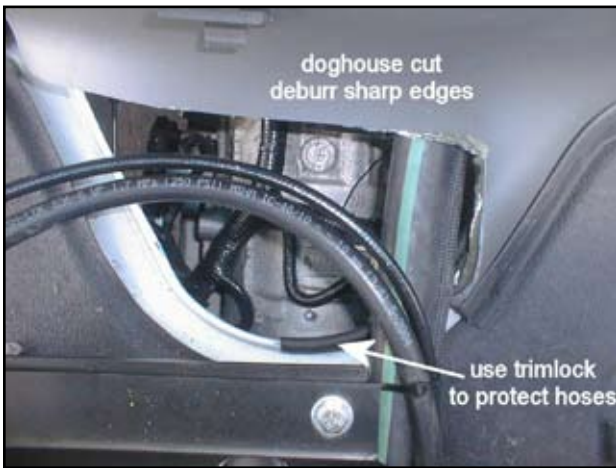

Figure 25. Engine Cover Alteration #1
9. Every install is slightly different; take careful measurements of the wire/ hose pack and the driveshaft before cutting the engine cover. Use trim lock with bulb gasket on the engine cover where the wire/hose protector meet. Install the driveshaft seal to the engine cover using rivets to seal the driveshaft. See Figure 25 - Figure 27 for engine cover alteration.